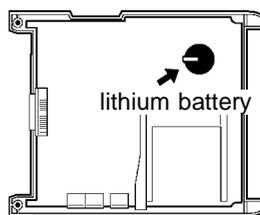

Figure 3
5. Wrench up the battery, and cut the positive (+) connection with nippers (see Figure 3). Wrench the battery up further.